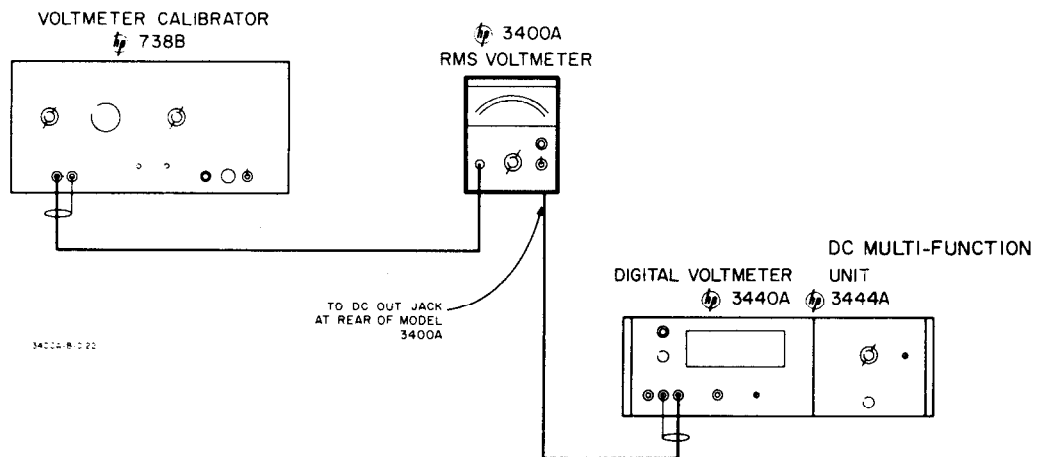

Figure 5-1. Accuracy, Linearity, and DC Output Test Setup
5-8. The accuracy, linearity, and dc output test setup is illustrated in Figure 5-1. A Voltmeter Calibrator (Model 738B) and a DC Voltmeter (Model 3440A 3444A) are required for this test.
- a. Connect test setup illustrated in Figure 5-1.